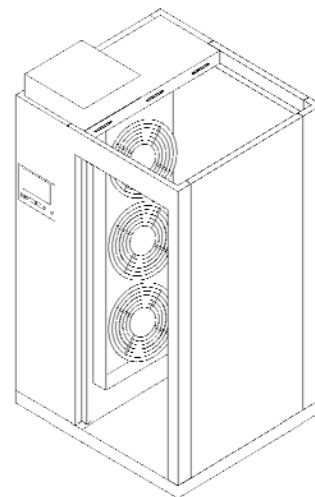

Fig 10
7. Assemble the doorjamb to the panels. (Fig. 10) Lock and seal the doorjamb into place as per the 'Panel Assembly Instructions'. (Refer to page 4)